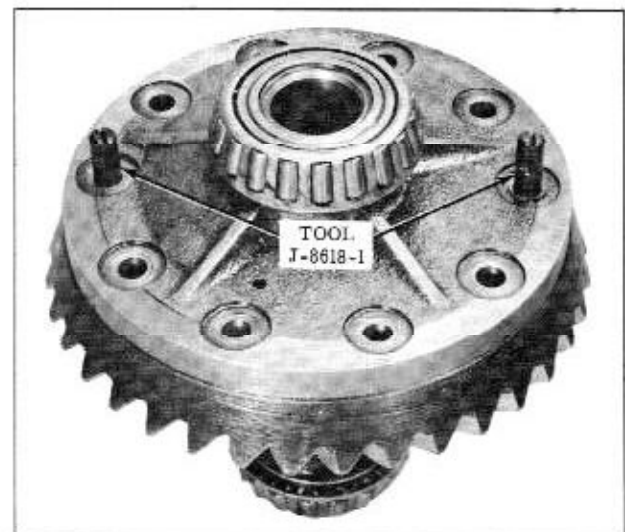

Figure 6-14 Installing Ring Gear
5. After making sure that mating surfaces of case and ring gear are clean and free of burrs, thread two studs J-8618-1 into opposite sides of ring gear, then install ring gear on case. (Fig. 6-14) THESE STUDS MUST BE USED OR BOLTS MAY STRIP DUE TO IMPROPER ALIGNMENT. Install ring gear attaching bolts finger tight then tighten bolts alternately in progressive stages to 50 ft. lbs.